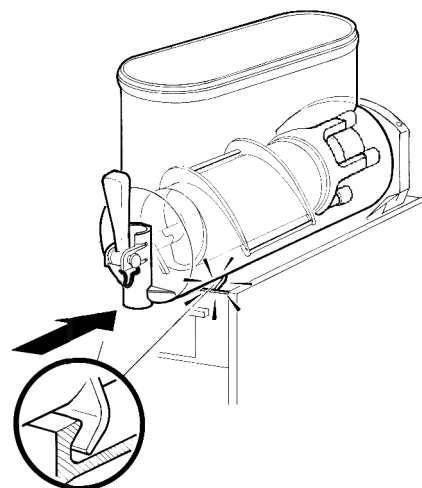

figure 16
- 7 - Push the bowl towards the rear wall of the unit until it fits snugly around the gasket and its front fastening hooks are properly engaged (see figure 16).